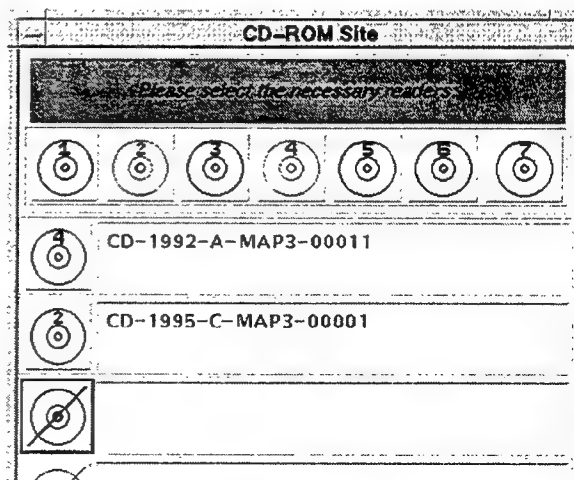

Fig. 79 — CD-ROM Site Window: switched priority of CD readers #2 and #4
- 6) The user can rearrange the order of the CDs in the list, if necessary. For example, when listing source CDs to be used in building an AODI, the order will dictate priority: the CD listed first gets top priority. This allows the user to properly overlap CAC sources with different edition numbers, since more recent data should get higher priority than older data. To reorder the CD list, click (with middle mouse button) and drag the desired CD number to its new location (Fig. 79).